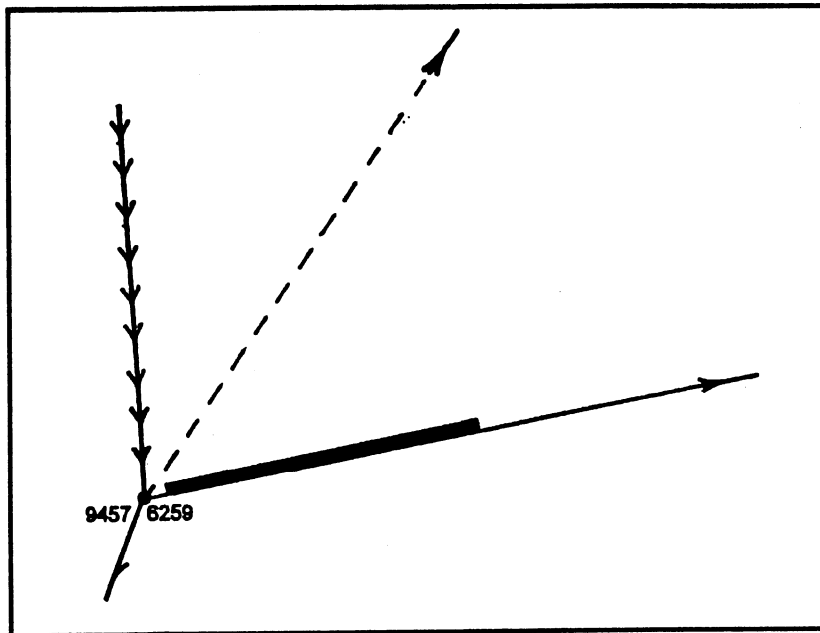

Fig 4-21. Beginning of a range card.
c. **Preparing a range card.** To illustrate how you would prepare a range card, we must use our imaginations a little. Observe figure 4-21. It is an illustration of a tactical field setting. Below is a description of the details and lay of the land.